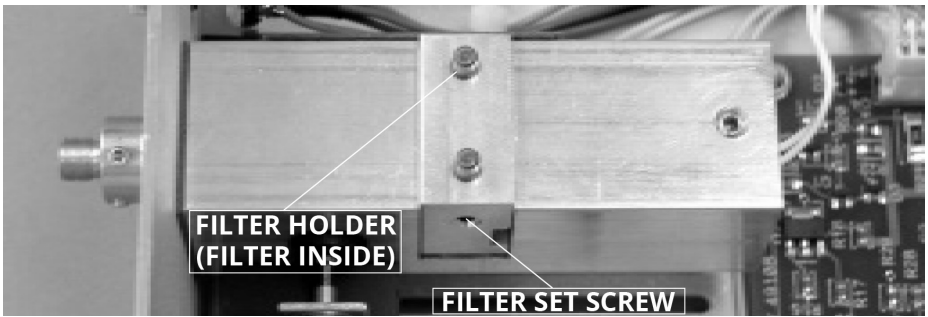

Fig.6
3. Loosen the filter setscrews on both sides of the lamp block with the Allen wrench provided. See Fig. 6.